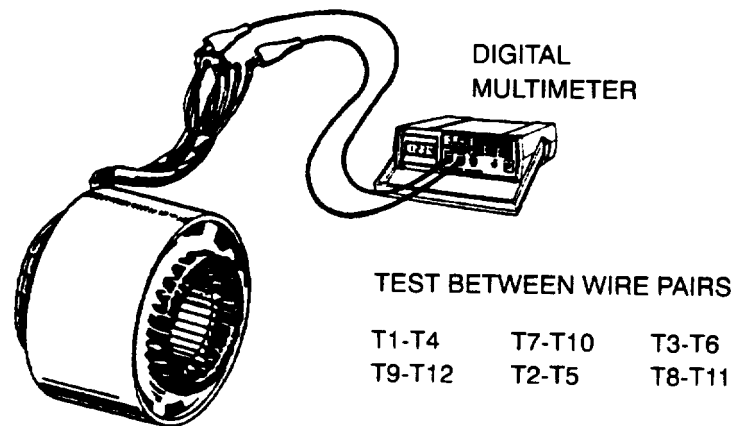

Figure 4-22. Testing Stator Windings
- g. Connect resistance bridge between coil leads (Figure 4-22). All readings should be as shown for generator stator leads in Table 4-1.